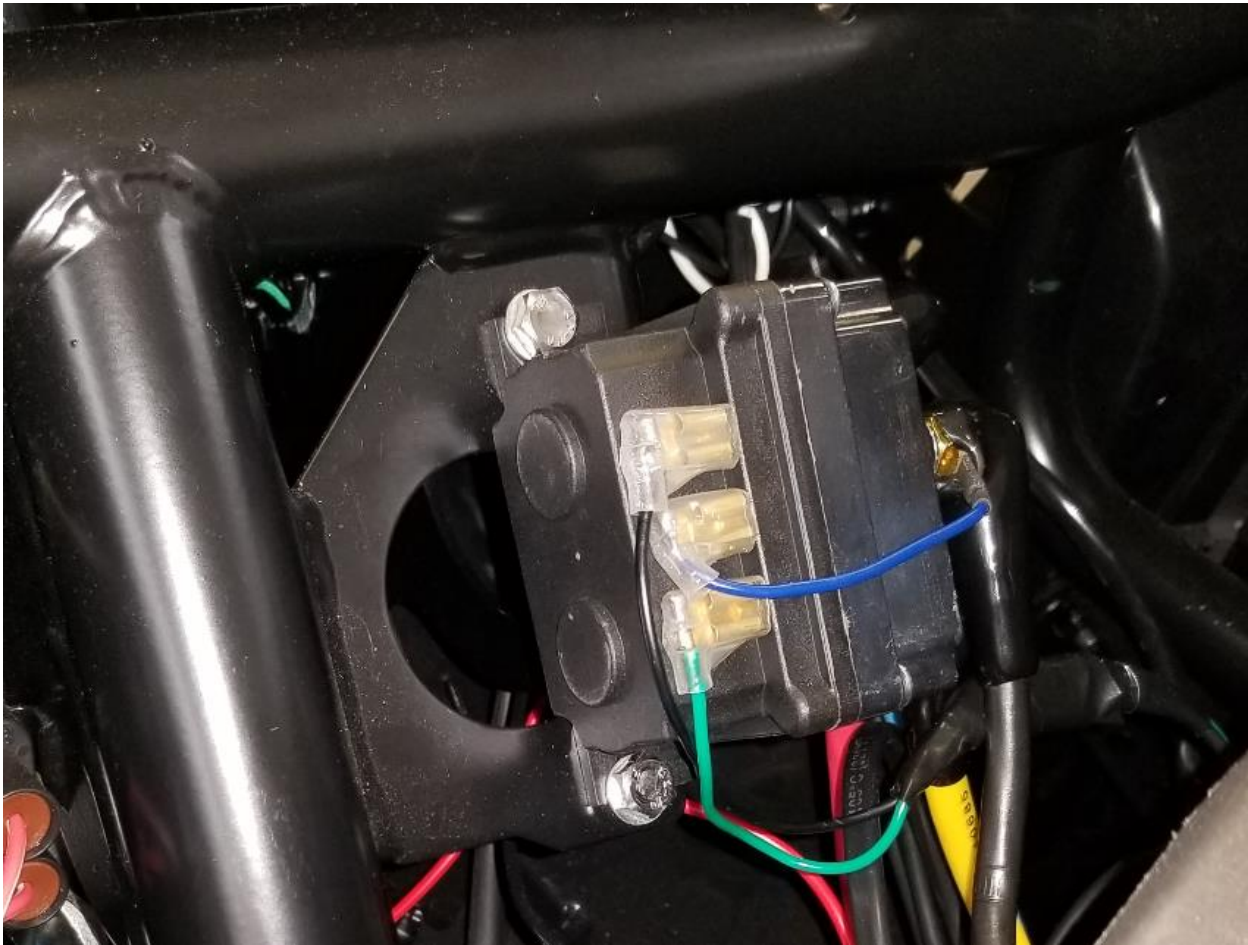

Figure 7
8. The Honda Talon is prewired from the factory. A pair of Red and Black heavy gage wires are secured to the vehicle under the hood on the driver's side. Figure 7 shows the area where the factory wires are secured.
9. Free the factory wires from the metal bracket in Figure 7 and mount the contactor as shown in Figure 7.